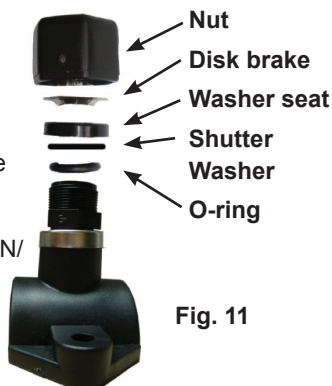

Fig. 11
- Put the shutter washer (fig. 11) in to close off the hole in the probe holder
- It is advisable to remove the peristaltic tube and flush it with fresh water. Once complete ensure the tube is completely dry and re-install as shown on page 12, section 5.1, figure 11.